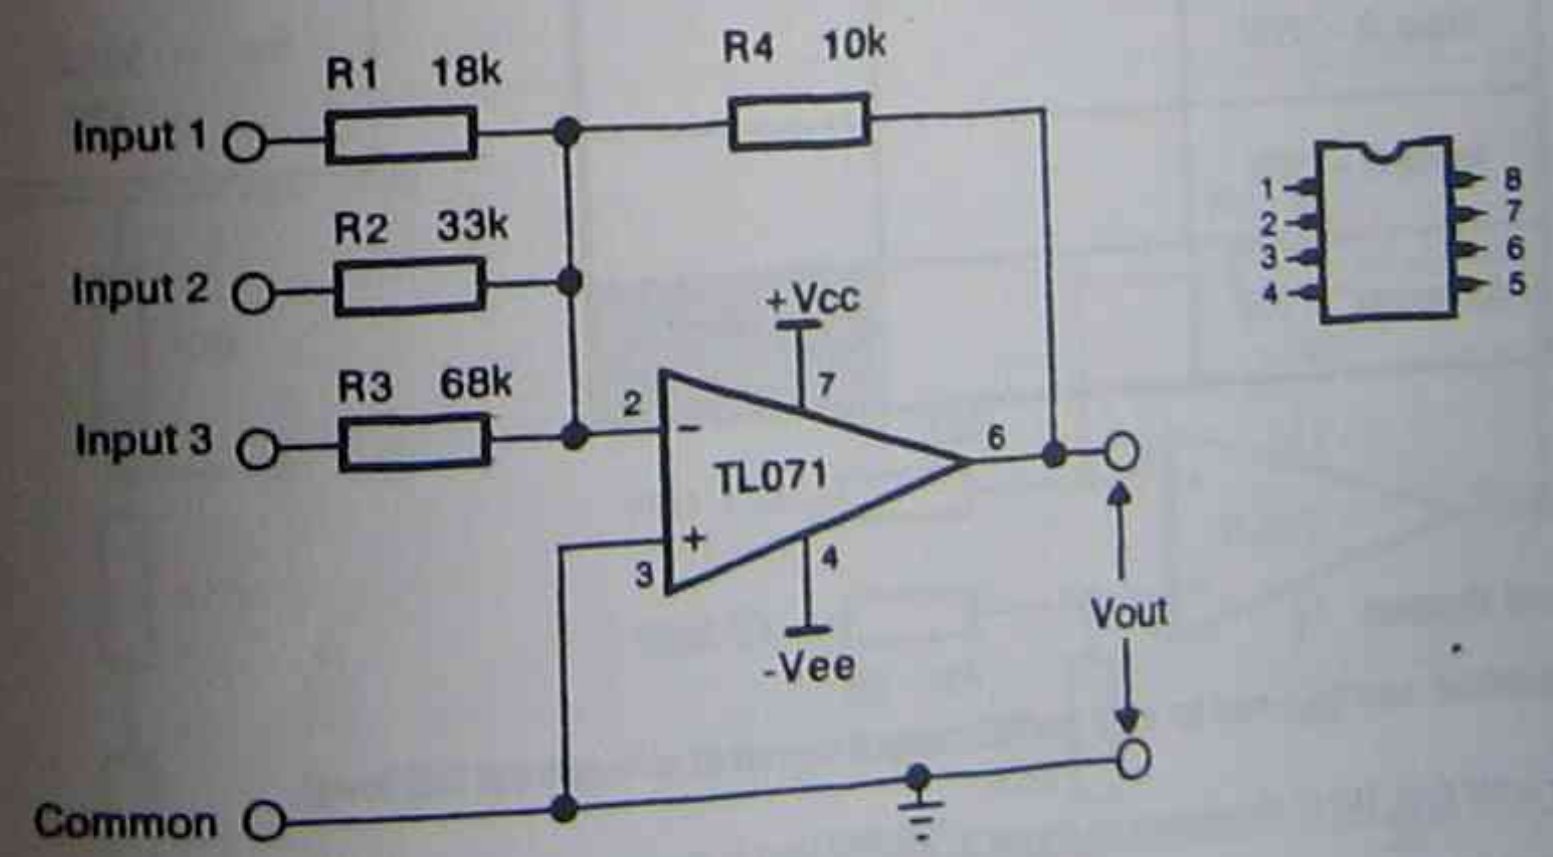

Fig.1: The summing amplifier
- For Fig. 1, calculate the gain of each input.
- Calculate the DC output voltage of Fig. 1 if +10V DC is applied to all three inputs.
- Construct the circuit of Fig. 1 on a prototyping board. The circuit is powered with a dual polarity power supply, either $\pm 12V$ or $\pm 15V$.